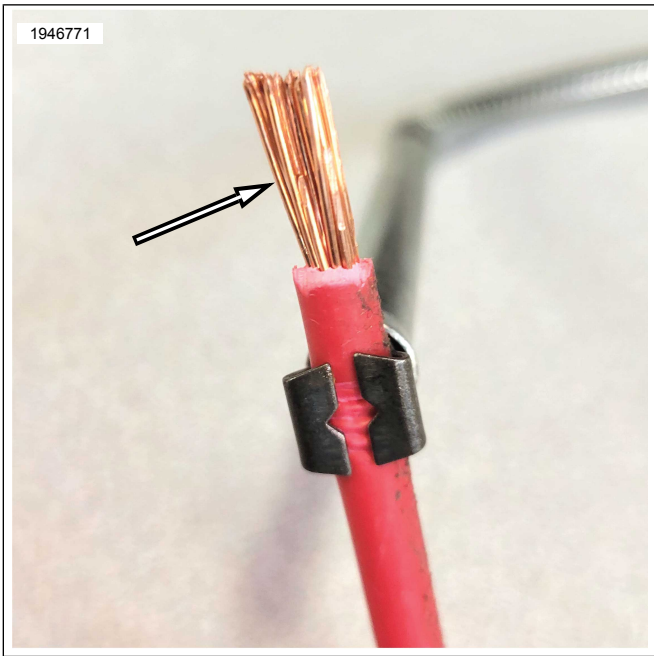
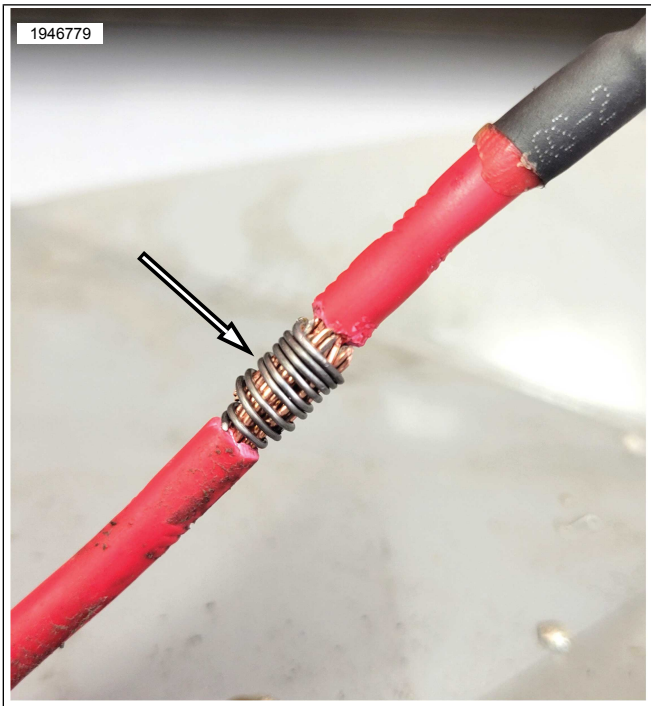

Figure 13. Exposed Wire
Figure 18. Wrap Joint with Thin Gage Wire
9. See Figure 13 - Figure 18. Solder in place Direct Current (DC) lead from Recall kit (Part No. 69203711).